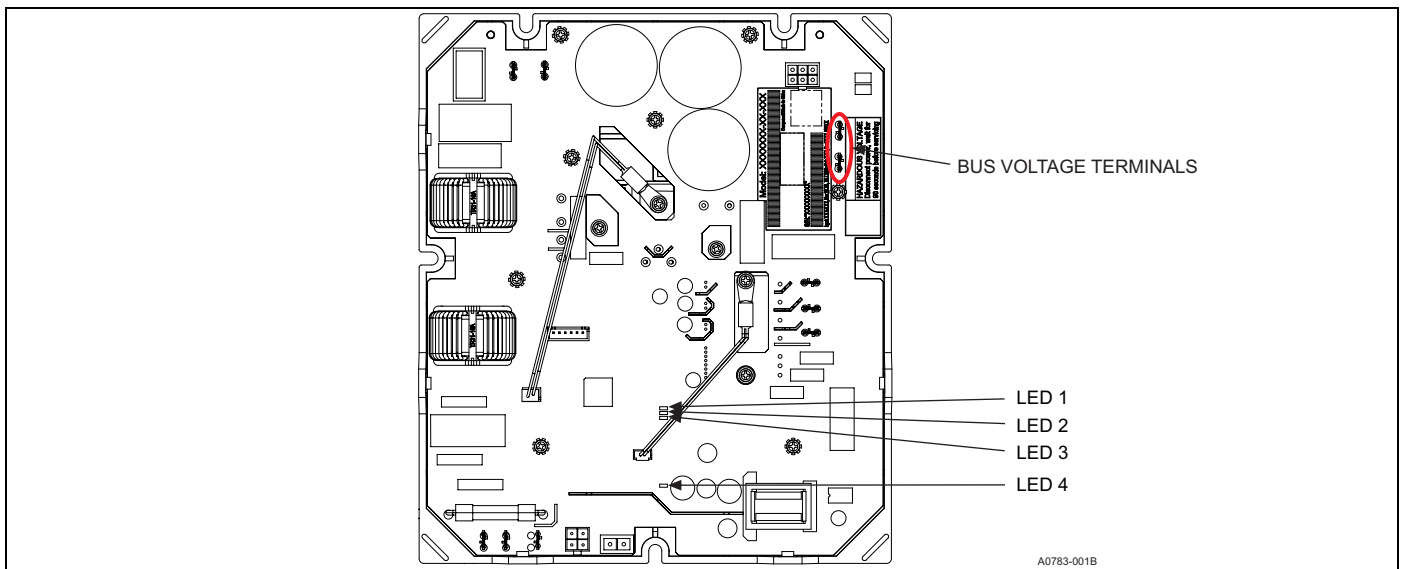

Figure 13: 2 ton inverter drive LED location
1. Refer to Figures 13 to 15 for LED inverter drive locations.